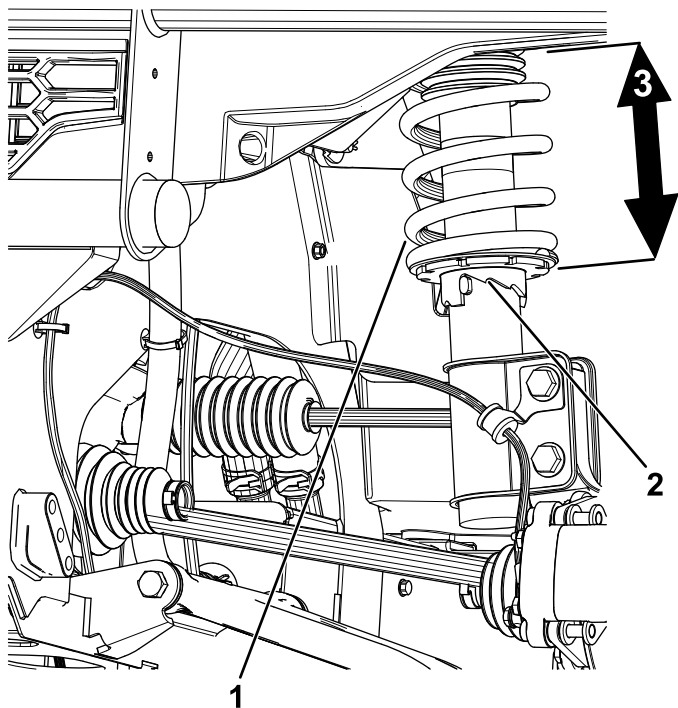

Figure 83
2. If the ground clearance is not correct, use the spring-adjuster wrench to rotate the collar on the shock absorber to align the wheel (Figure 83).